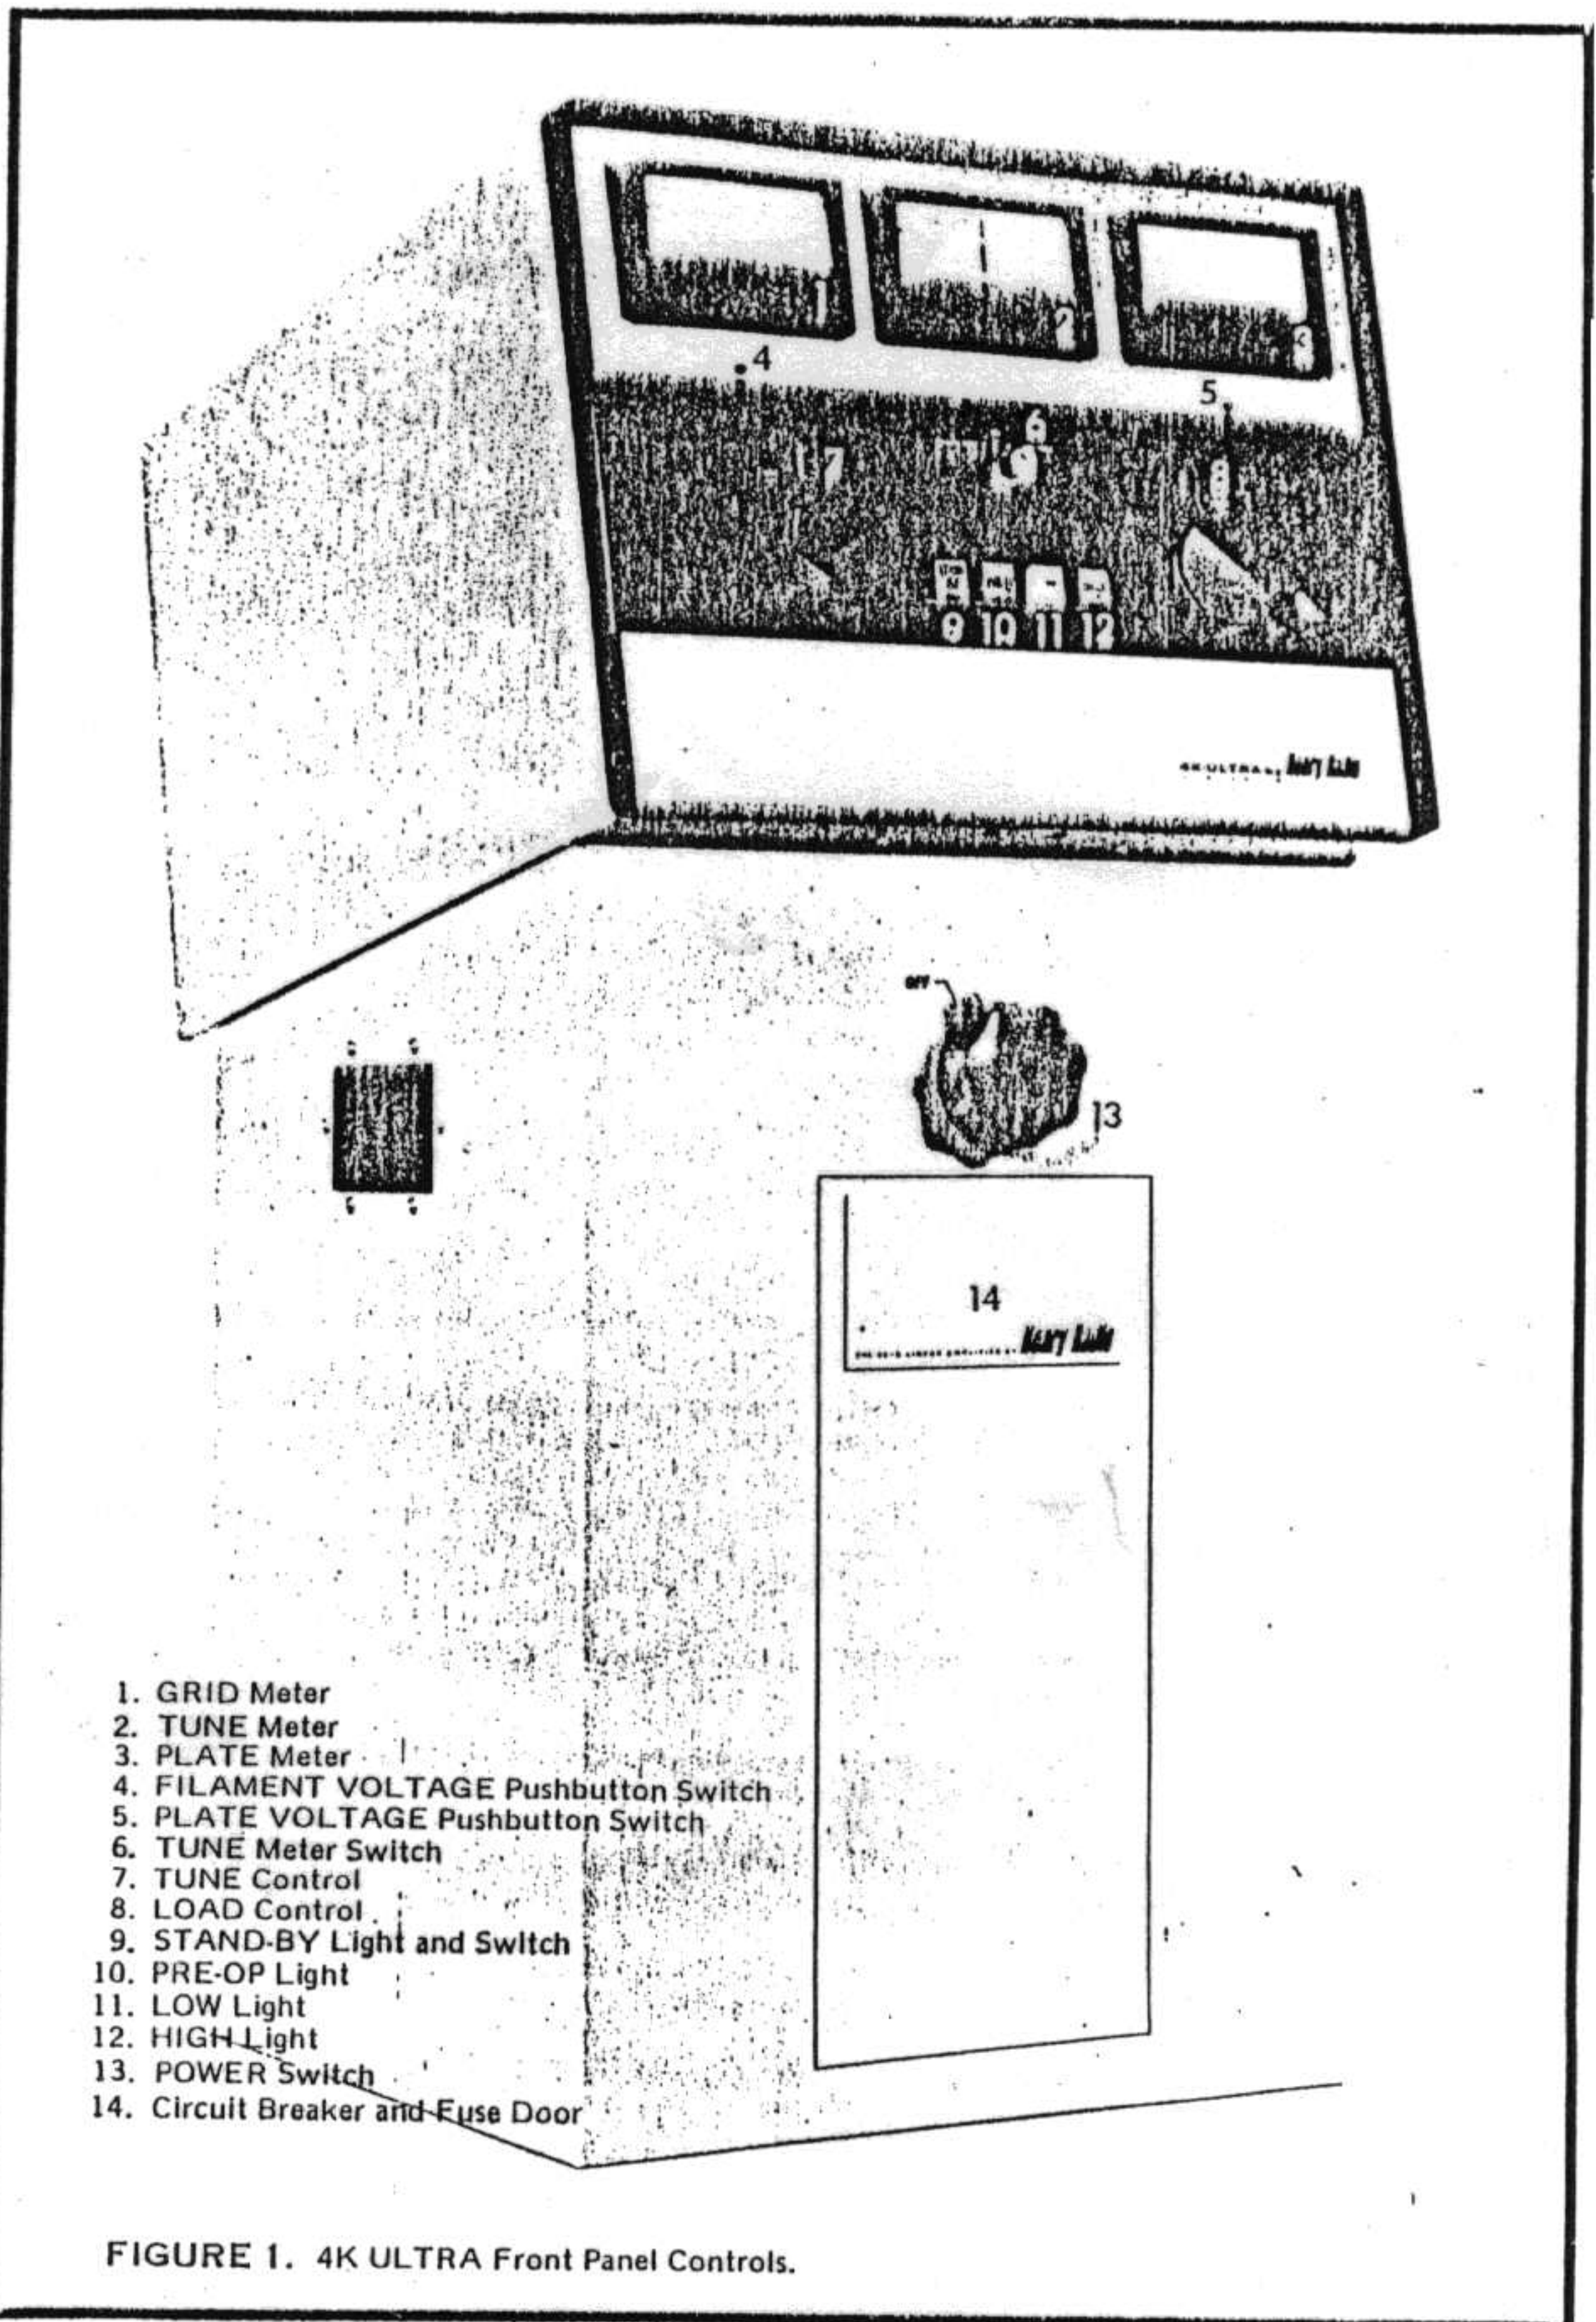

FIGURE 1. 4K ULTRA Front Panel Controls.
**GRID METER (1 on Figure 1)**—The GRID meter measures 0-100 ma of grid current in its normal position. When the FILAMENT VOLTAGE pushbutton is pushed in this meter measures 0-10 volts of filament voltage.
**TUNE METER (2 on Figure 1)**— This meter's functions depend on the position of the TUNE meter switch. See that description below.
**PLATE METER (3 on Figure 1)**— The PLATE METER measures 0-1 amperes of plate current in its normal position. When the PLATE VOLTAGE pushbutton switch is pushed in this meter measures 0-10,000 volts of plate voltage.
**FILAMENT VOLTAGE PUSHBUTTON SWITCH (4 on Figure 1)**— This push-button switch, which is located directly below the GRID meter, is depressed to measure filament voltage on a 0-10 volt scale.
**PLATE VOLTAGE PUSHBUTTON SWITCH (5 on Figure 1)**— This push-button switch, which is located directly below the PLATE meter, is depressed to measure plate voltage on a 0-10,000 volt scale.
**TUNE METER SWITCH (6 on Figure 1)**— This switch is a three position switch which selects the function of the center TUNE meter. The TUNE meter performs the following functions:
**TUNE CONTROL (7 on Figure 1)**— This control simultaneously adjusts the input, output and tank circuits for resonant operation. Refer to Table 1 for approximate TUNE control settings.
**LOAD CONTROL (8 on Figure 1)**— This control adjusts the loading capacitor for optimum load conditions. Refer to Table 1 for approximate LOAD control settings.
**STAND-BY SWITCH AND LIGHT (9 on Figure 1)**— The STAND-BY switch is a push-on, push-off switch. When depressed it should light to indicate the STAND-BY mode. Also, when the STAND-BY switch is depressed the amplifier cannot be keyed. In the STAND-BY condition the exciter output will be switched through the amplifier directly to the antenna. Note that even in the STAND-BY position the TUNE meter will indicate the FORWARD and REFLECTED power of the exciter.
**PRE-OP LIGHT (10 on Figure 1)**— The PRE-OP light is illuminated when the POWER switch is in one of the PRE-OP positions.
**LOW LIGHT (11 on Figure 1)**— The LOW light is illuminated when the POWER switch is in the LOW position.
**HIGH LIGHT (12 on Figure 1)**— The HIGH light is illuminated when the POWER switch is in the high position.
**POWER SWITCH (13 on Figure 1)**— The POWER switch is a 5 position switch which is used to control the 230 VAC input and the HIGH and LOW plate voltage taps. The switch is wired as follows:
**CIRCUIT BREAKER AND FUSES (14 on Figure 1)**— The 25 amp circuit breaker and two 3 amp 3AG fuses are located behind the fuse door below the POWER switch.